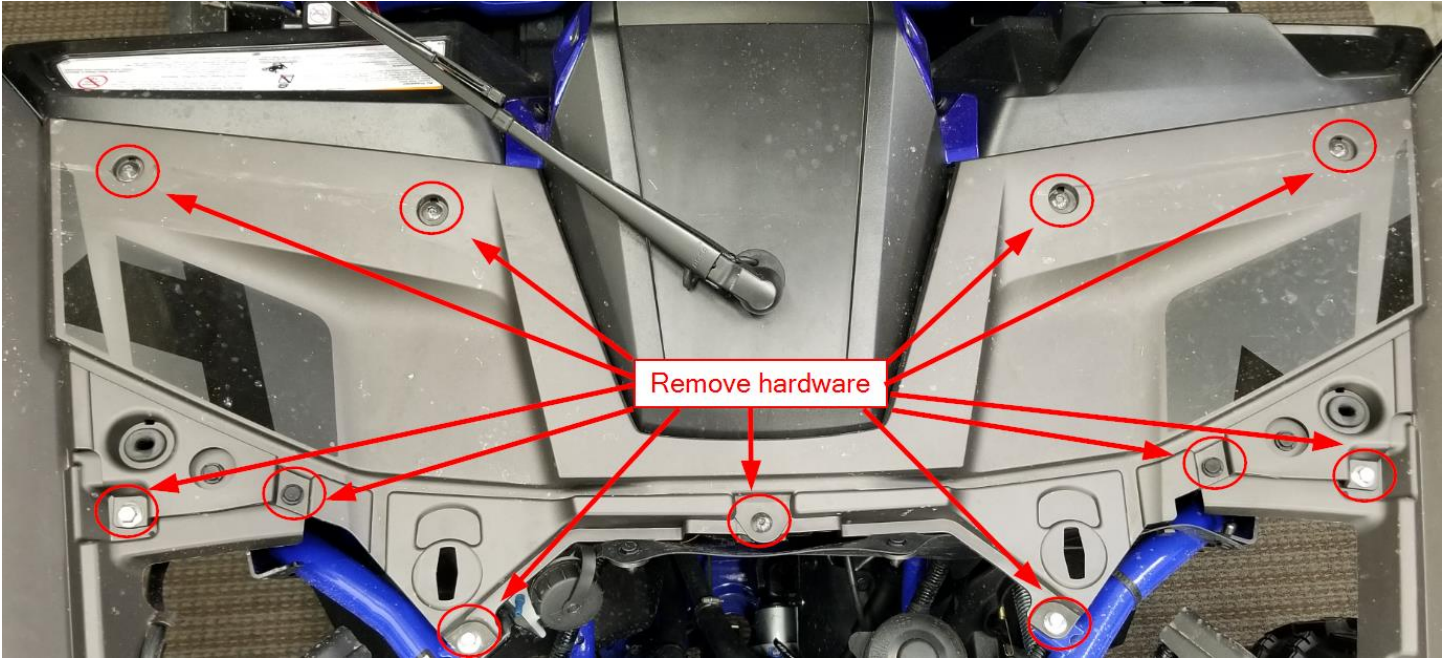

Figure 2
- d. Remove the upper front hood as shown in Figure 2